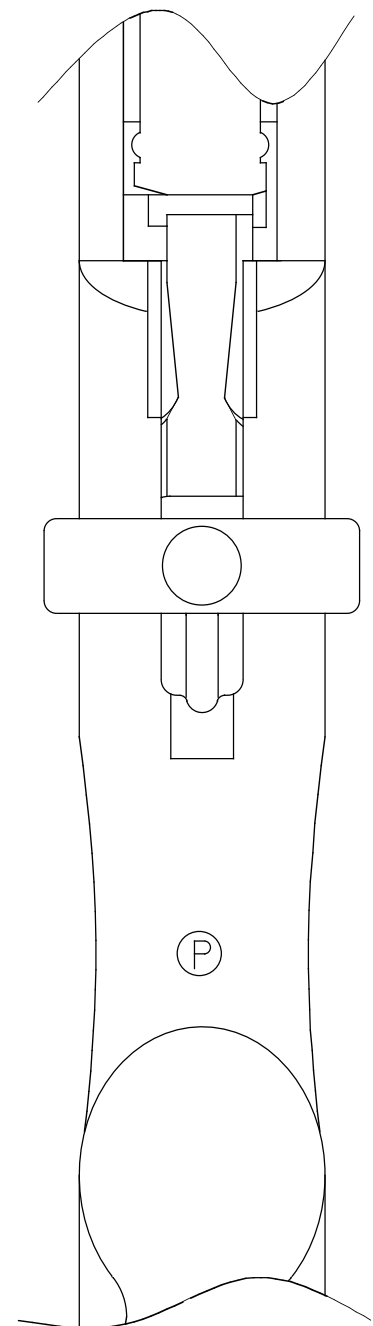

fig. 4
5. With the receiver lying on it's back (stock on top) install the grounding plate and thumbscrew (fig. 4) and tighten.